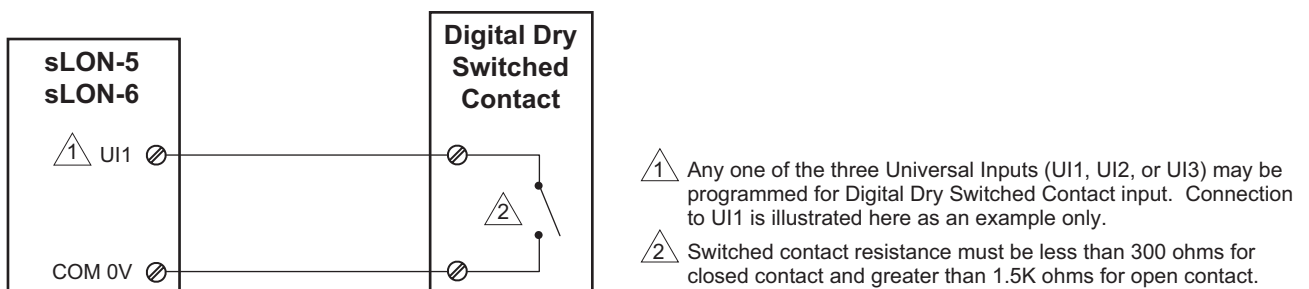

Figure-13 Typical Wiring for Digital Dry Switched Contact Input.
8. Digital Dry Switched Contact (refer to Figure-13).
Any of the sLON-5 or sLON-6 controller's UI inputs can be configured for the Digital Dry Switched Contact input. Make the connections according to the diagram in Figure-13.